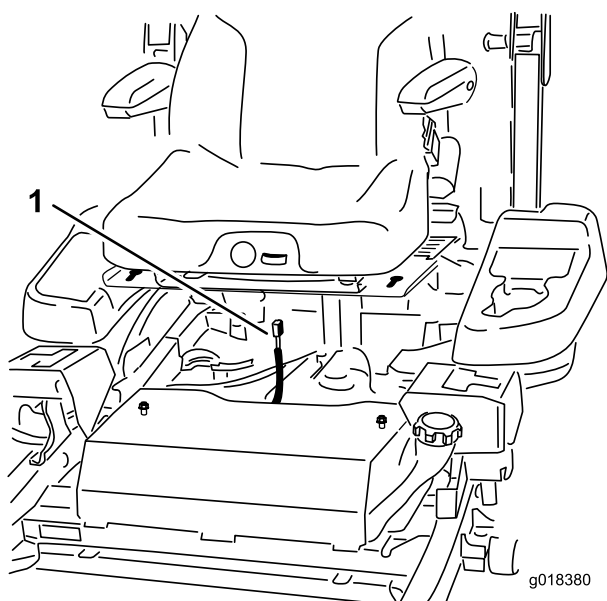

Figure 63
9. Unplug the harness connector from the seat switch located under the seat (Figure 63).